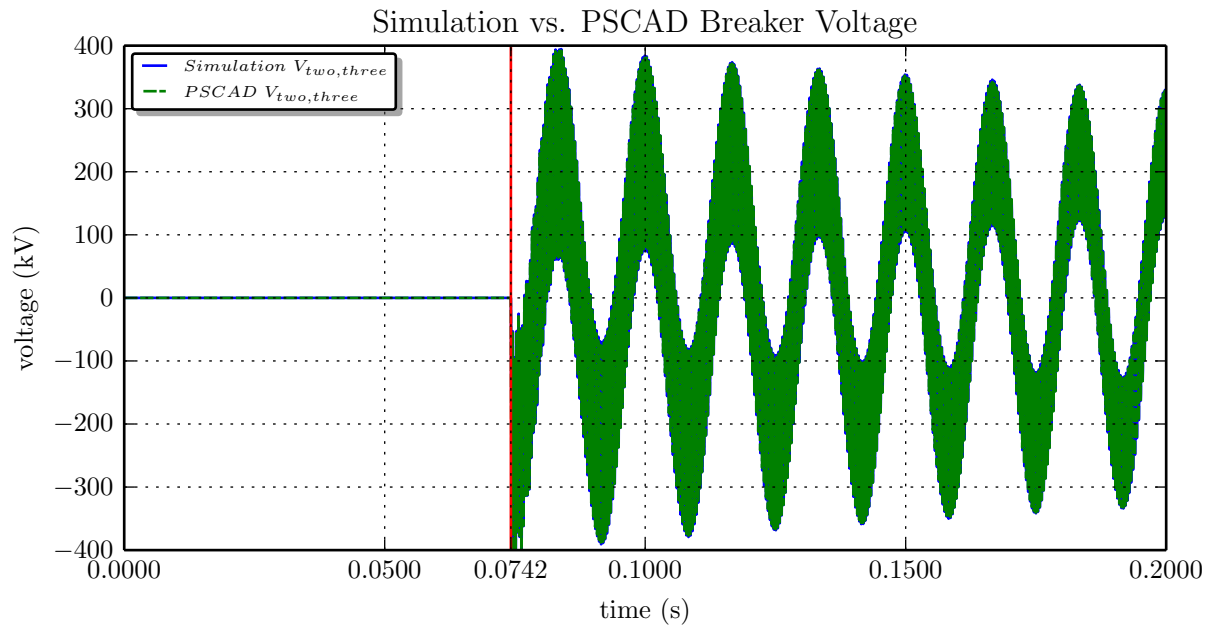

Figure 8: Plots of $V_{two,three}$ breaker voltage
- c) Plots of $V_{two,three}$ which represents the voltage across the breaker (Figures 8 and 9).